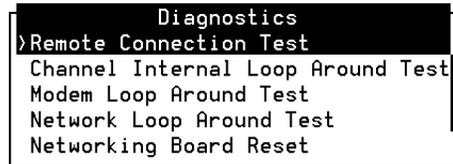

Figure 20-1. Diagnostics Menu
4. Press **(DIAGNOSE)** (F4) to access the Diagnostics menu as shown in Figure 20-1.
4. Press **(DIAGNOSE)** (F4) to access the Diagnostics menu shown in Figure 20-1.